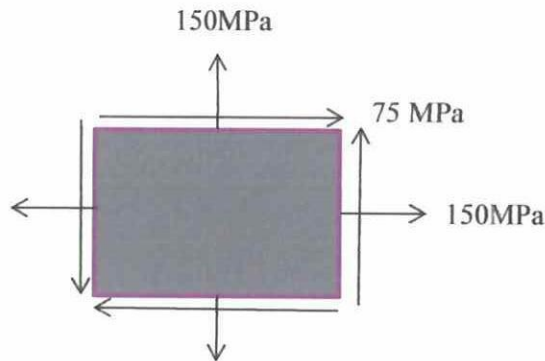

Figure 5(a)
- Q6 (a) Find the  $\sigma_{x'}$ ,  $\sigma_{y'}$ ,  $\tau_{xy'}$  for the element shown in Figure 5(a) if the element was rotate  $60^\circ$  clockwise.